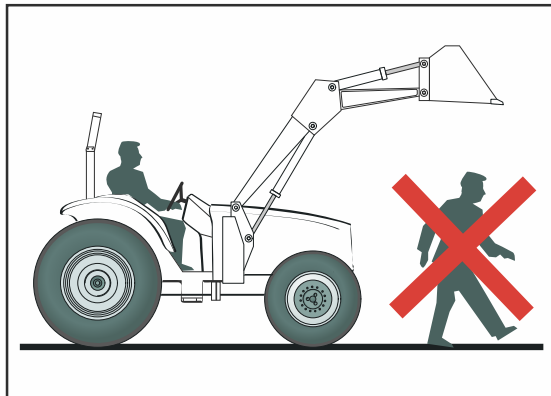

Fig. 14
- Keep people away from the working area. DO NOT allow other people to stay or pass under an implement lifted (Fig. 14).